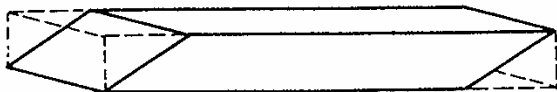
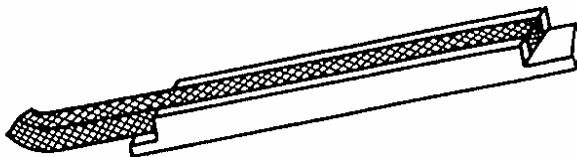

Fig. 13. Slanted cut of the packing
Fig.14. Packing rings cutting device
- Cut new packing rings possibly with oblique edges (Fig.13). To facilitate this cutting operation it can be used a very simple device (fig.14).